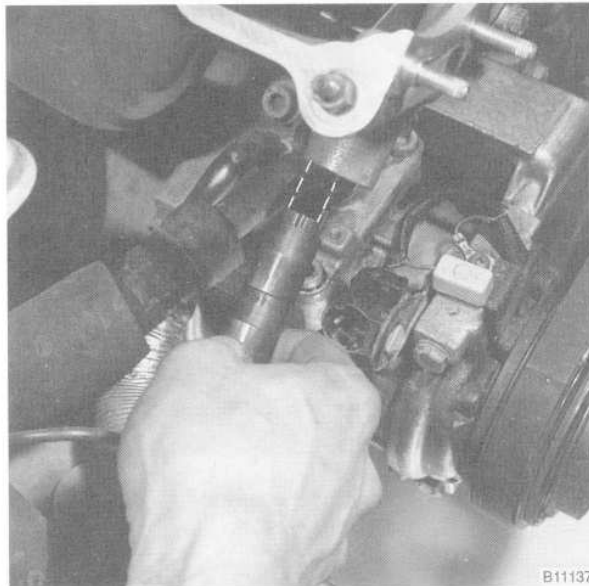

Fig. 21. Primary timing chain tensioner being installed on 1991 and 1992 cars. Piston cutout must be in position shown to engage chain rail.
10. On 1991 and 1992 cars, install the primary chain tensioner so that the cutout in the tensioner piston engages the chain rail as shown in Fig. 21. The chain should be free of slack.
19. On 1993 and later cars, remove BMW special tool 11 3 390 (dummy tensioner) from the side of the cylinder head. Install the primary chain tensioner so that the cut-out in the tensioner piston engages the chain rail as shown above in Fig. 21. Install and tighten the access plugs in the VANOS control unit.